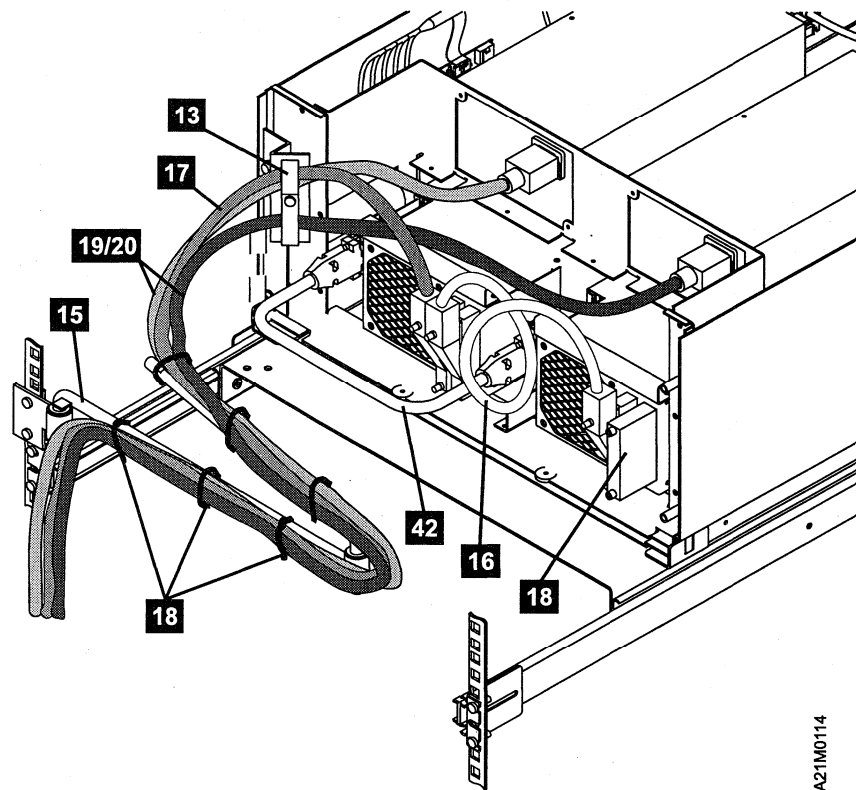

Figure 64. Model C22 (Dual-Drive Single-Host) Cable Routing
- \_\_\_ Step 5. Install the long SCSI host cable. Insert the right-angled plug into the left-most 68-pin socket (see Figure 64) of drive 1 so the cable is looped upward. Route it to the upper wing of the clamp (loop the